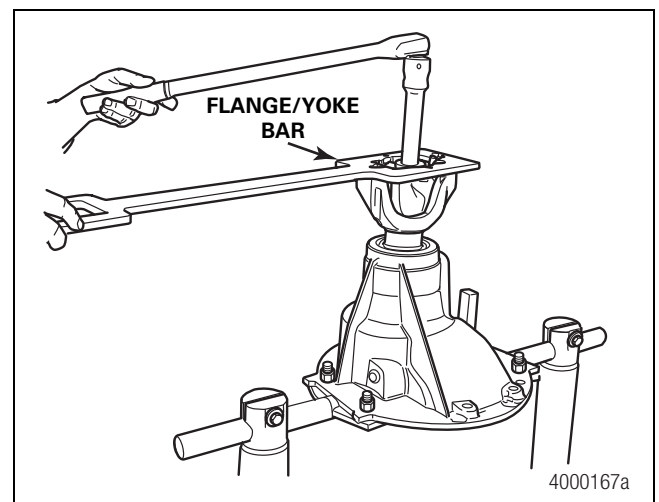

Figure 5.12
4. Install the drive pinion nut, and washer if required onto the input pinion shaft and against the yoke collar. Use a flange or yoke bar to tighten the nut against the yoke collar to torque specifications. Figure 5.12. Refer to Table H in Section 7.